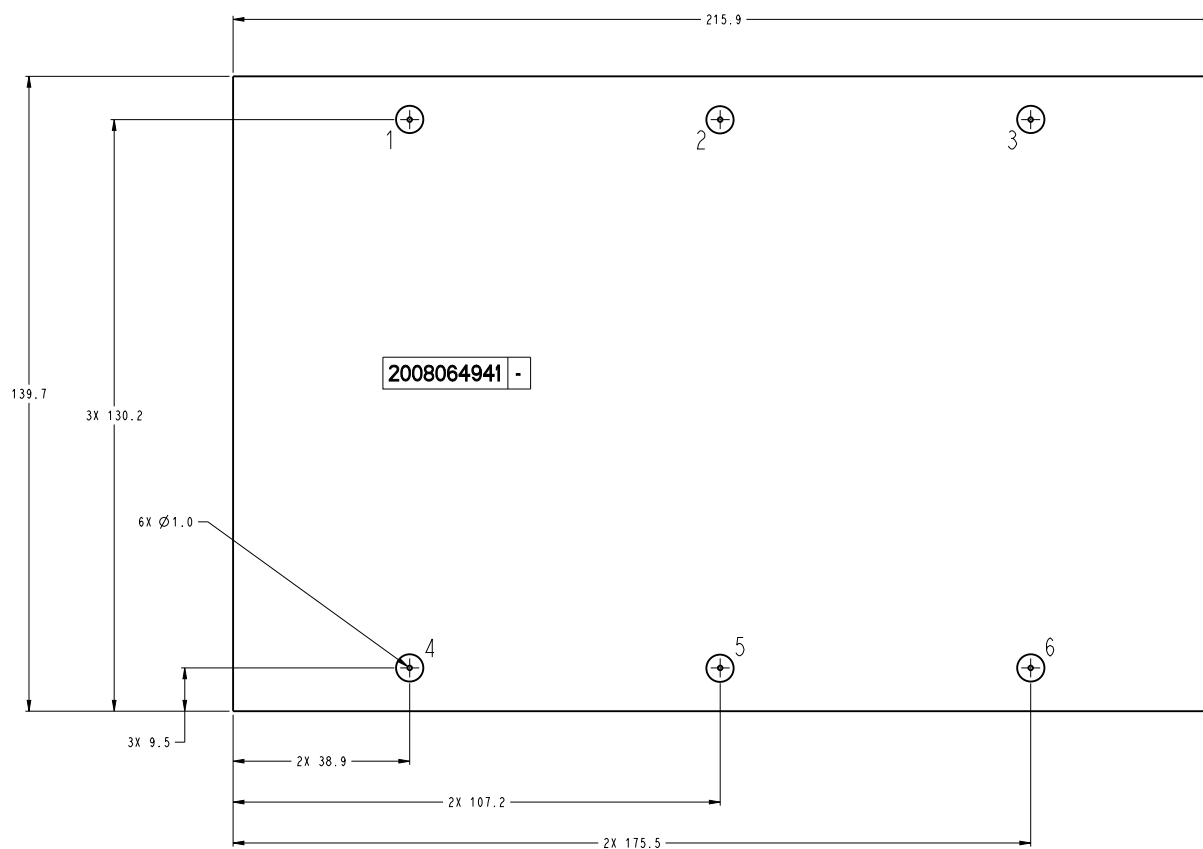

Fig. 6 — TB9 Drill Template
4. Locate and use the TB9 drill template (Fig. 6, P/N 2008064941) to mark the hole locations/pattern for mounting TB9 in the location where Compressor A1 contactor(s) was located. See Fig. 7.